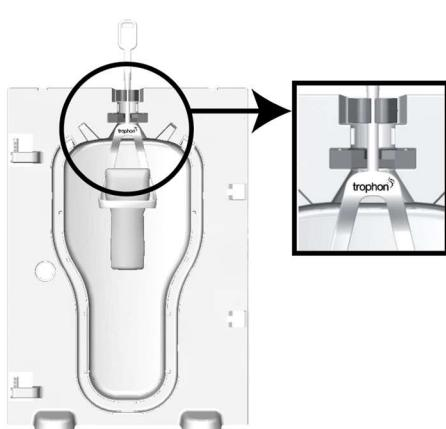
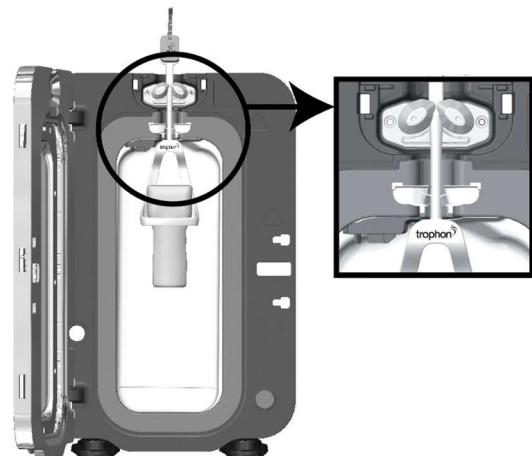

Figure 4
Figure 5
- **WUPH-A** The Trophon Wireless Ultrasound Probe Hanger-A (WUPH-A) holds a compatible wireless ultrasound probe in the trophon chamber. It is suitable for use with both trophon EPR and trophon2 devices (see Figure 4 and Figure 5 respectively).